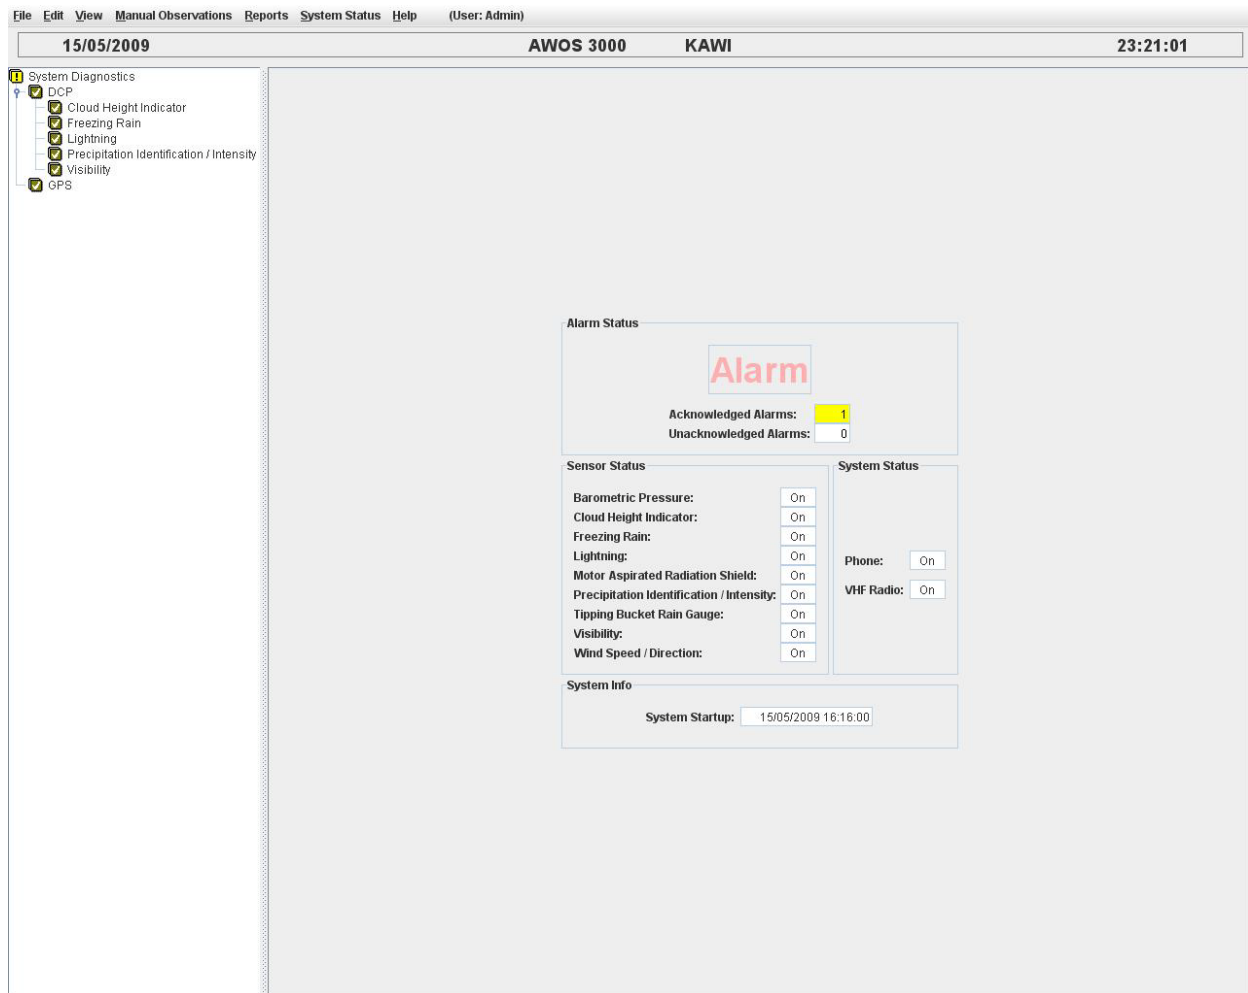

Figure 59. Diagnostics Display
The Diagnostics View is shown in Figure 59. The Diagnostics view provides access to system and sensor level status information. The display is divided into two panes.
The **System Diagnostics** screen (Figure 59) is the default screen to which the display opens.
- If all alarms have been acknowledged, the **ALARM** indicator turns a lighter red (as in Figure 59), and the navigation pane's System Diagnostics alarm indicator turns yellow .